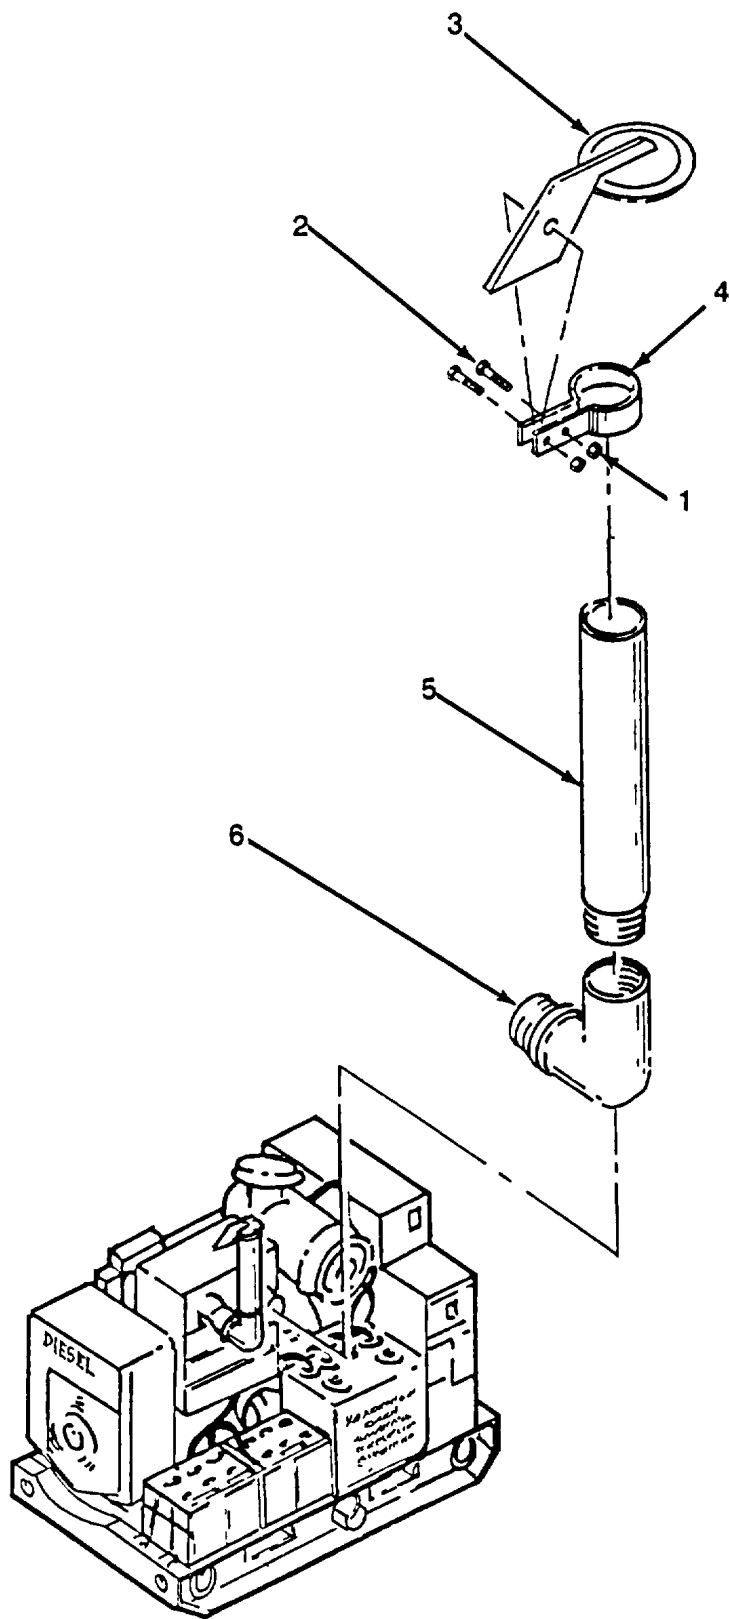

Figure 4-21. Stack, Exhaust.
**4-30. STACK, EXHAUST (Figure 4-21).**